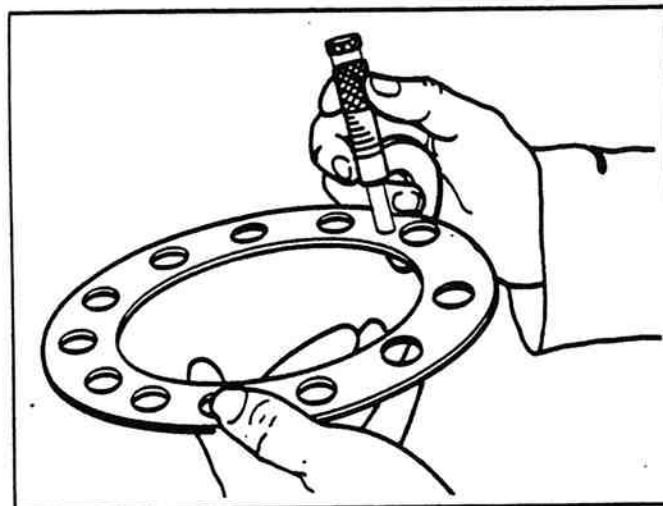

Figure 2-61. Measuring Thickness Of Old Shim Pack.
1. Measure the thickness of the old shim pack that was removed from under the pinion cage with a micrometer. Record the measurement for later use (Figure 2-61).